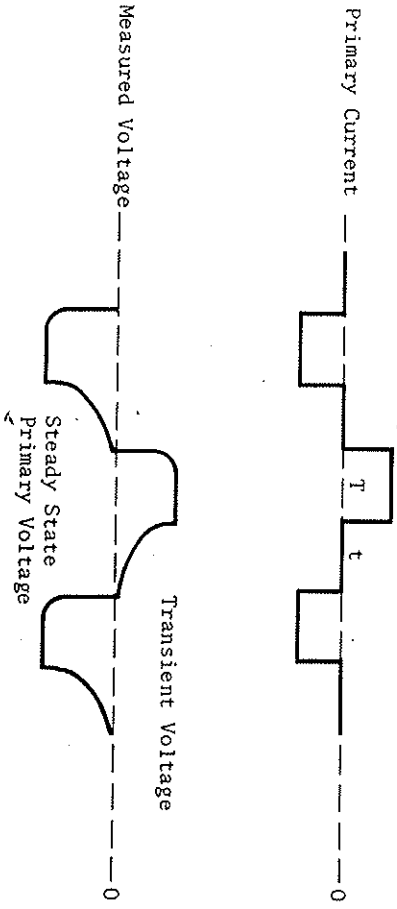

Figure 2
- 3) Output Current and Ground Resistance Test Meter: Normally used to measure the amplitude of the current transmitted, however, when the Output Switch (6) is in the RES position, the current dipole resistance is shown on the upper scale.
- 4) Battery Current and Voltage Meter: Normally this meter measures the current delivered by the batteries, however, when the Battery Monitoring Meter Switch (10) is depressed, it measures the battery voltage.
- 5) Output Current Range Switch: This is used to select the coarse or fine current scales on the Output Current and Ground Resistance Test Meter (3). Normally the 1.5A full scale is used, however, when the Output Current Range Switch (5) is depressed, readings are made on the 0.5A full scale for additional accuracy, particularly at low currents.
9) Pulse Duration Selector Switch: This switch allows selection of the pulse duration (T in Figure 2, i.e.  $\frac{1}{4}$  period) of 1, 2 or 4 seconds.
11) Open Loop Warning Light: If the current electrode wires are improperly connected to the Output Terminals (1) or to the electrodes, or if they have been broken, or if the contact resistance is so high that less than 50 mA of current are output, the open loop protection circuit automatically turns off the output voltage as a safety measure. The Open Loop Warning Light (11) then glows to indicate the condition.